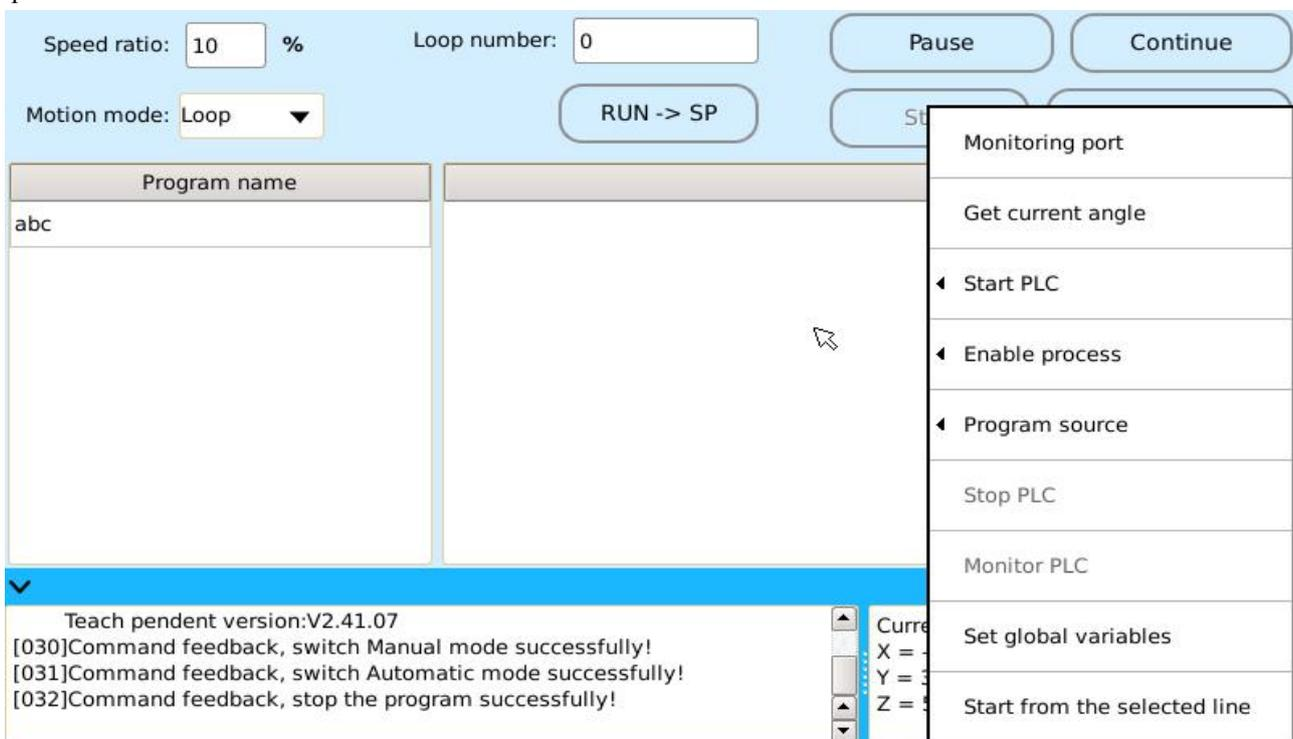

Figure 4.20 “automatic mode” key interface under “menu”
(3) The physical key of the “menu”: In the “automatic mode” interface, press the physical key of the “menu”, as shown in Figure 4.20, in the pop-up “menu” interface, 9 operations can be carried out, which includes the “monitoring port”, “Query current joint angle”, “enable the PLC program”, “process enablement”, “source of program”, “disable the PLC program”, “monitor PLC program”, “set global variable” and “start running from the specified row”.